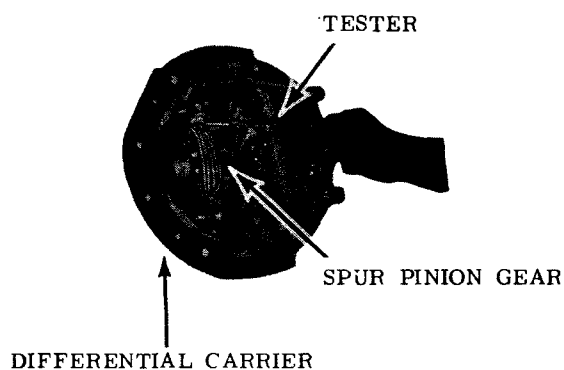

Figure 43 Checking spur pinion gear bearing preload.
a. Install the original shim pack (D) and the spur pinion gear gearing small cage (C) on the differential carrier making sure the oil groove in shims and cage is in alignment with oil groove in carrier.
b. Position the spur pinion gear and cross shaft assembly (Y) and bevel drive gear (Z) with bearing cup (E) in the differential carrier. Place shims (W) on the studs and install the spur pinion bearing large cage (AA) on the carrier. Secure the retaining washer (CC) to the cross shaft with cap screws (DD) and locking wire. Install the shims (BB) that were removed during disassembly on the large bearing cage. Install the spur pinion bearing cage cover (EE) on the spur pinion bearing large cage (AA).
c. Rotate spur pinion several revolutions before checking bearing preload. Check bearing preload by wrapping cable of tester around the spur pinion gear as shown in figure 43. While pulling on a horizontal plane, note the reading on tester scale. Bearing preload should be between 12 to 18 inch pounds. To obtain the bearing preload, multiply the radius of the spur pinion gear by the reading on the tester scale.